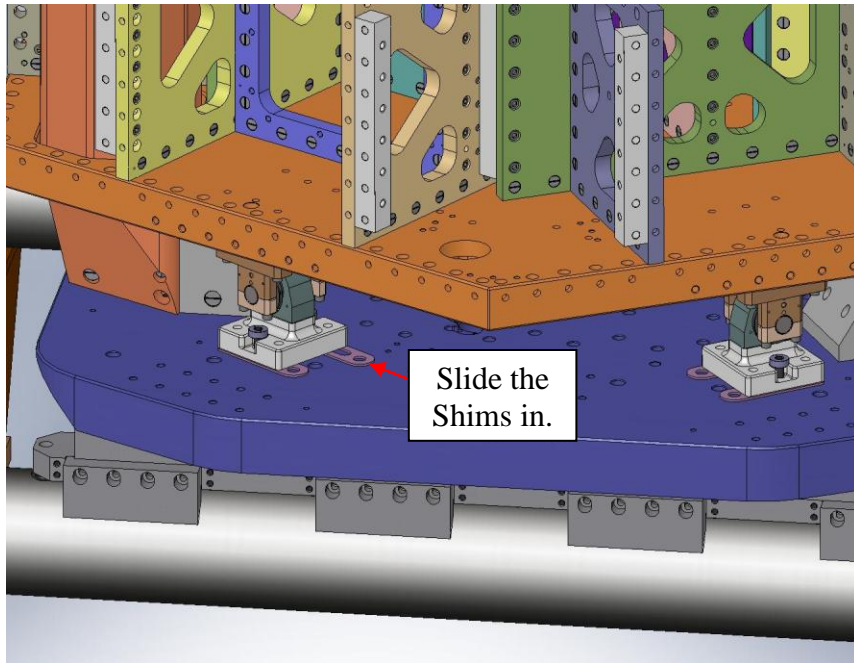
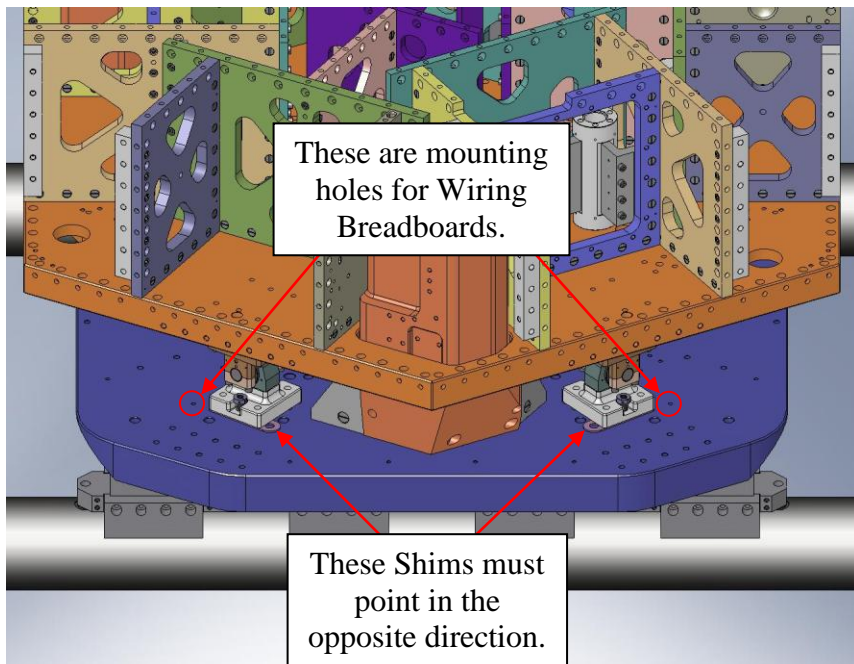

Figure 3.74. Slide (8) .125" Shims underneath the Locker Bases. Make sure the Shims slide around the bosses on the bottom of the Locker Bases.
Figure 3.75. Two of the Shims must be inserted “backwards”, or they will interfere with the Wiring Breadboards, which are installed later.
- Slide (8) .125" **Shims** (D071141-05) between the **Locker Bases** and the **Stage 0 Base**, as shown in Figure 3.74 and Figure 3.75. The **Shims** should fit closely around the bosses on the bottom of the **Locker Bases**. *Since Stage 1 will not be level to Stage 0 when it's on the crane, first place the Shims under the lowest Base(s), then carefully lower Stage 1 until all the Shims can be inserted around the bosses.*